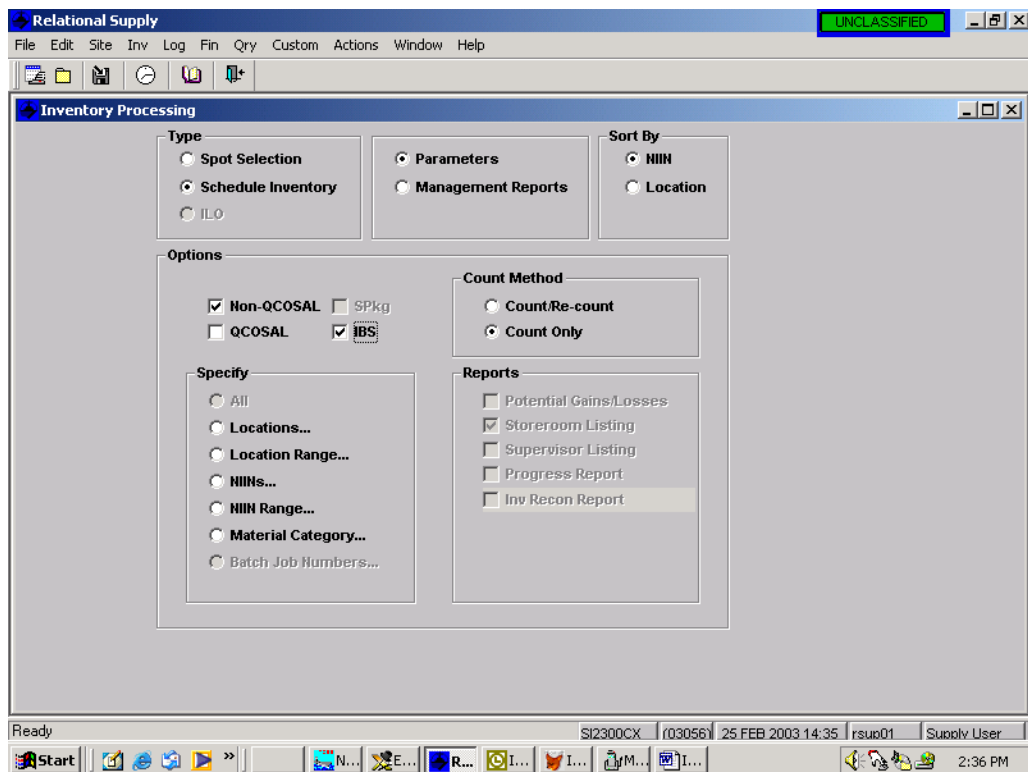

Figure A2
- c. Select the type, Spot or Schedule Inventory. (FIGURE A2)